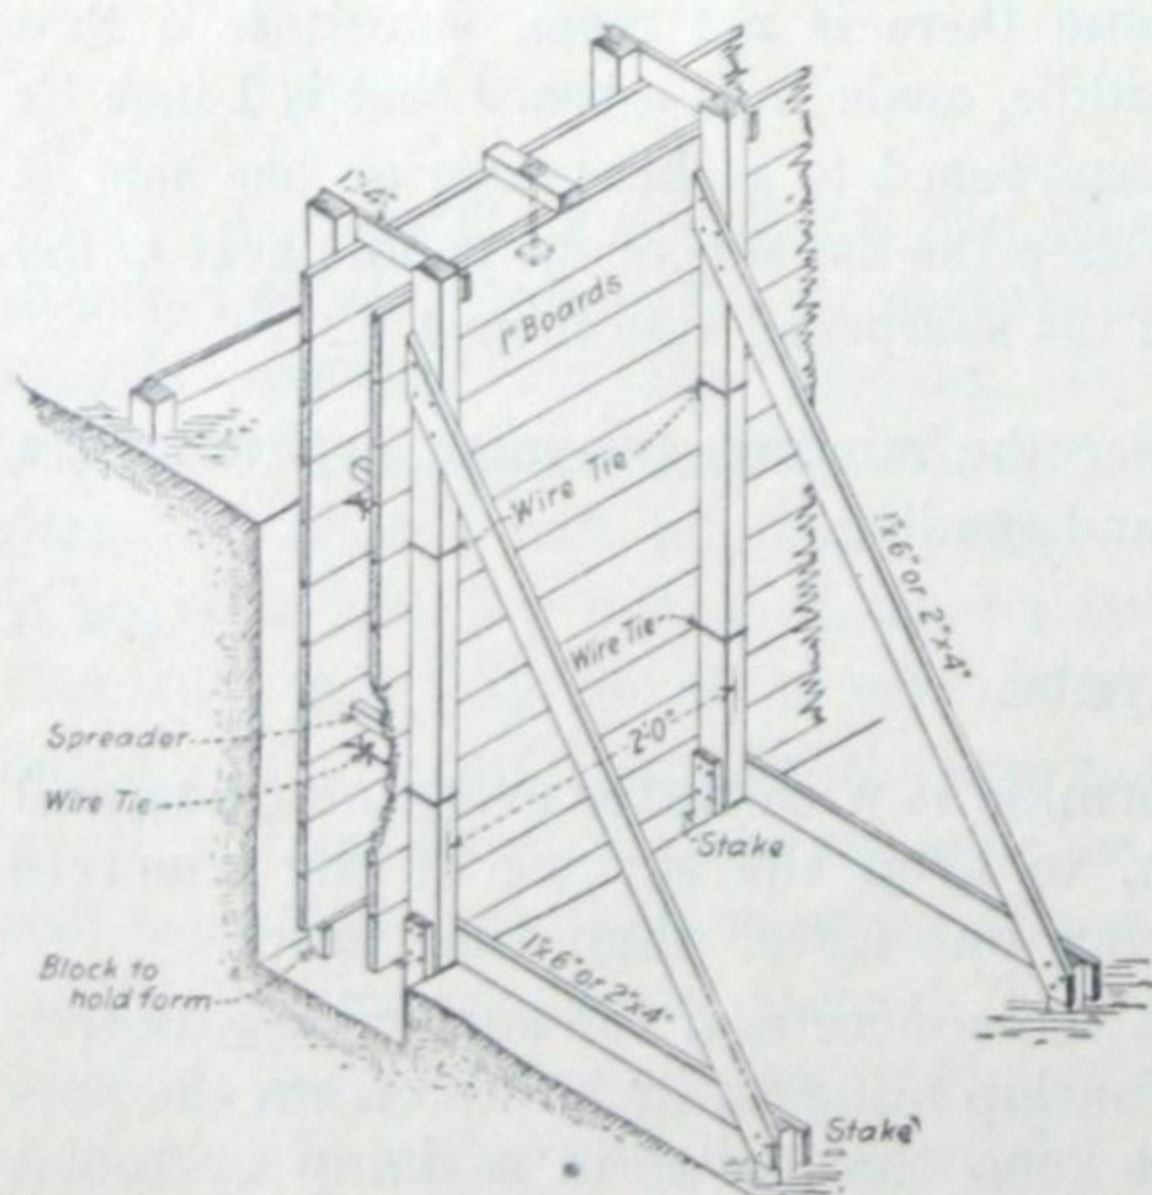

Fig. 11—Forms for wall in soft earth.
68. Figure 11 shows foundation wall forms for both sides. The one next to the earth is supported on small blocks so that the concrete can flow out and make a broader base or footing. The inside form rests on the earth. This diagram shows how bolts can be placed in the top of the wall to fasten sills to the foundation.